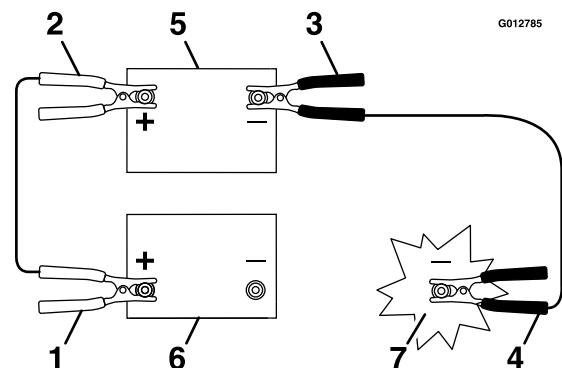

Figure 43
3. Connect the positive (+) cable to the positive (+) terminal of the discharged battery that is wired to the starter or solenoid as shown in Figure 43.